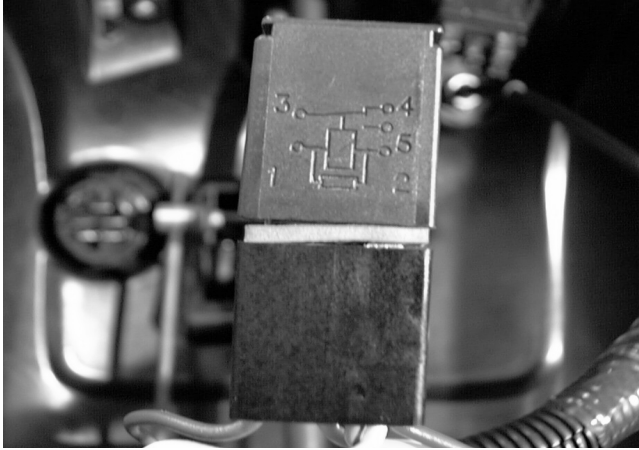

FIGURE 26.
- 2). Remove the PTO relay from the wiring harness connector. See figure 26.